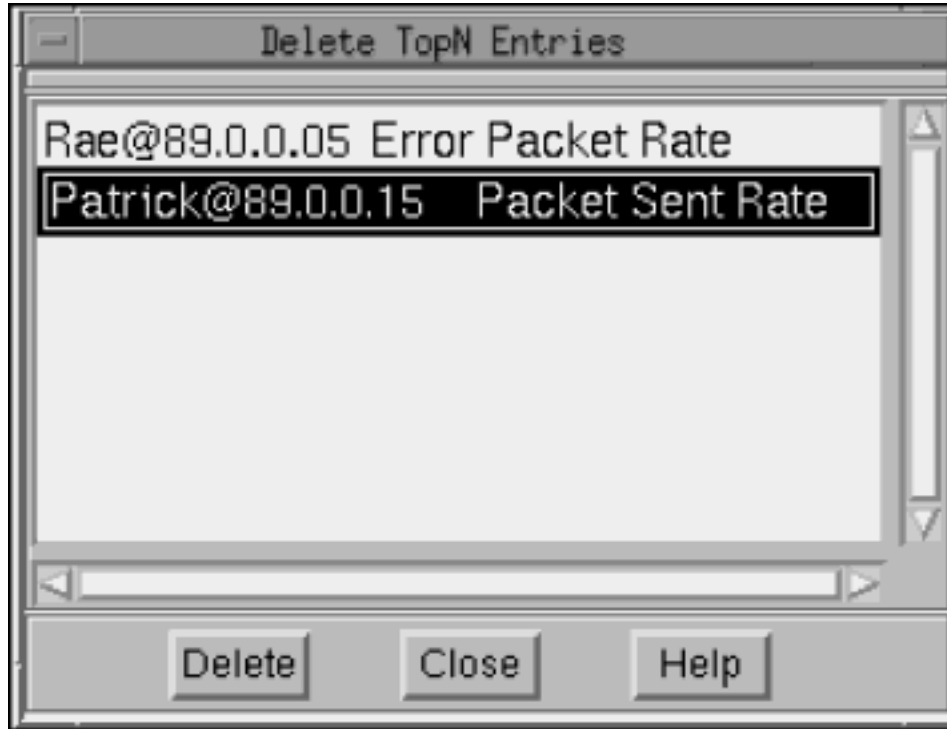

Figure 6. Delete Table Entry Dialog Box
5. Nways Manager Remote Monitor automatically creates HostTopN tables for certain graphs. To delete HostTopN table entries, click **Delete HostTopN Tables...** to open the Delete TopN Entries dialog box, shown in Figure 6.